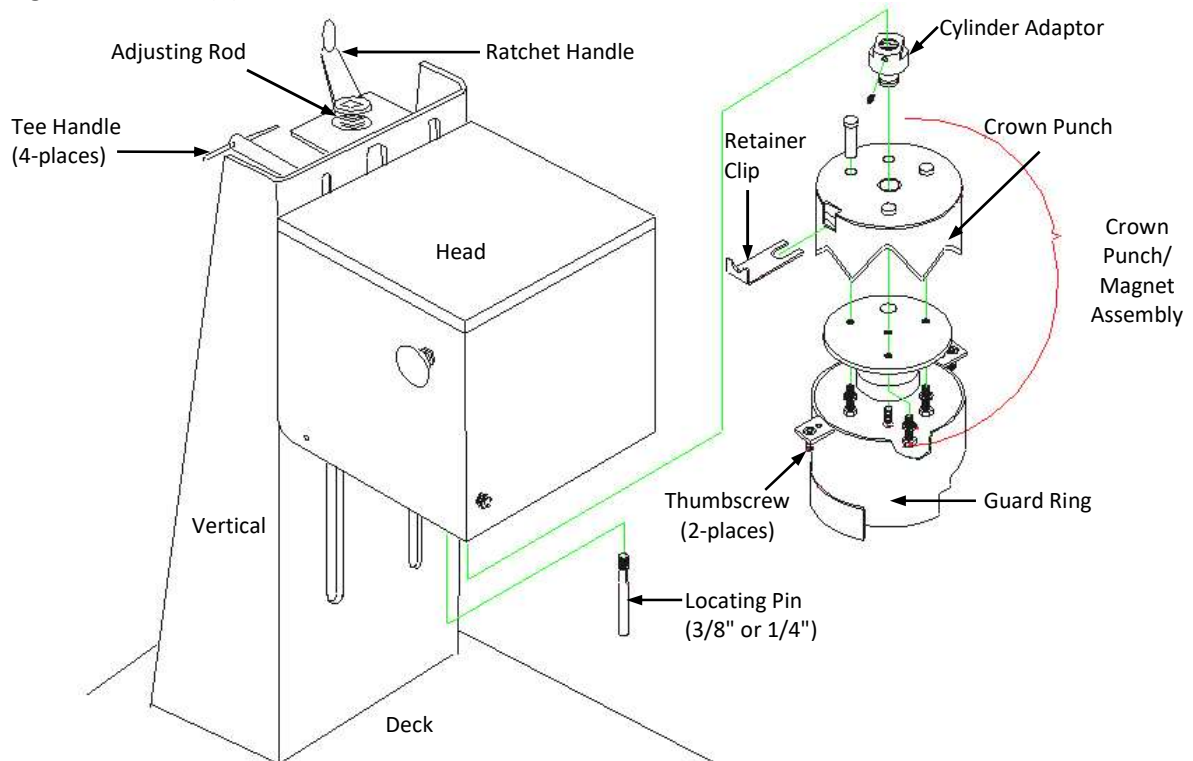

Figure 2
3. Loosen the four (4) Tee Handles at the rear of the vertical (Figure 2) and raise or lower the Head as needed using the Ratchet Handle on the Adjusting Rod (Figure 2), keeping the can and Guard Ring aligned and level.
1. With one hand, hold up on the Guard Ring (Figure 2 on page 8). With the other hand, unscrew the two (2) Thumbscrews (Figure 2).
2. Take the Guard Ring down and set it aside. Now hold up on the Crown Punch with one hand (being careful of the pointed edges of the Crown Punch), and with the other hand, pull the Retainer Clip out (Figure 2).
3. Check the Cylinder Adaptor (Figure 2 on page 8) for chips and try to move it sideways to check the Cylinder for shaft wear or loose mounting screws.
5. Check the Locating Pin (Figure 2 on page 8) for tightness and check the Retaining Clip for wear.